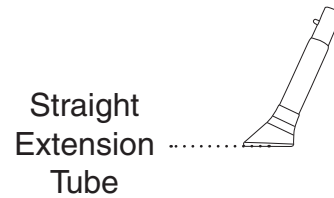

Fig. 13
4. Located all (4) feet. Slide each foot onto the bottom of each infant / toddler straight extension tube and place off to side (Fig. 13)